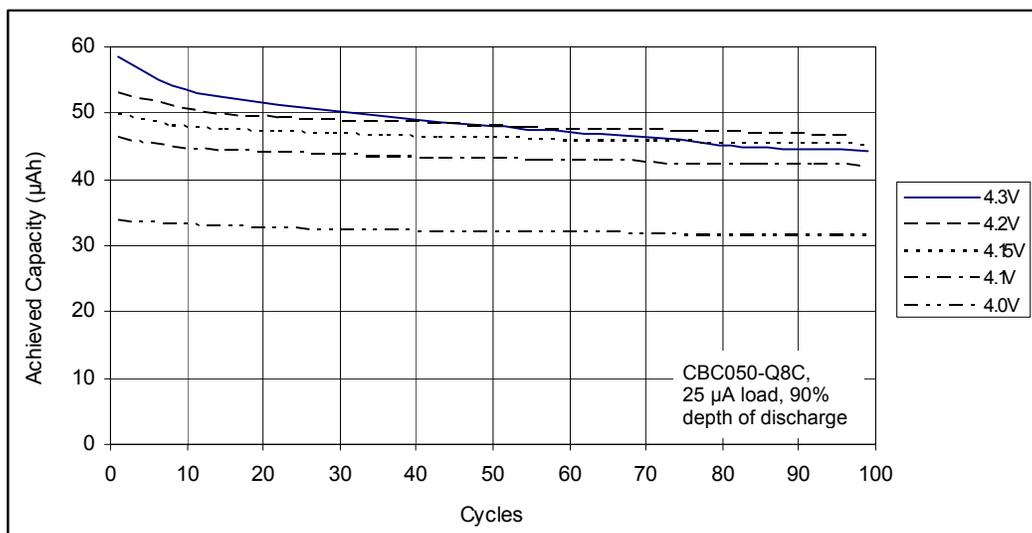

Figure 2. Effect of charging voltage on battery charge and cycle fade.
- The charging voltage and charge time determine the amount of charge delivered to, and accessible from, the battery. A higher charging voltage will deliver more charge, but will also result in greater long-term capacity fade as a function of charge/discharge cycling. *Figure 2* shows tradeoffs between charging voltage, charge capacity and cycle fade.
- The batteries may be charged at a constant current (CC) followed by a constant voltage (CV). During the CC phase, the current may be set to any value that results in an acceptable charging time and does not cause the battery voltage to exceed 4.3V.